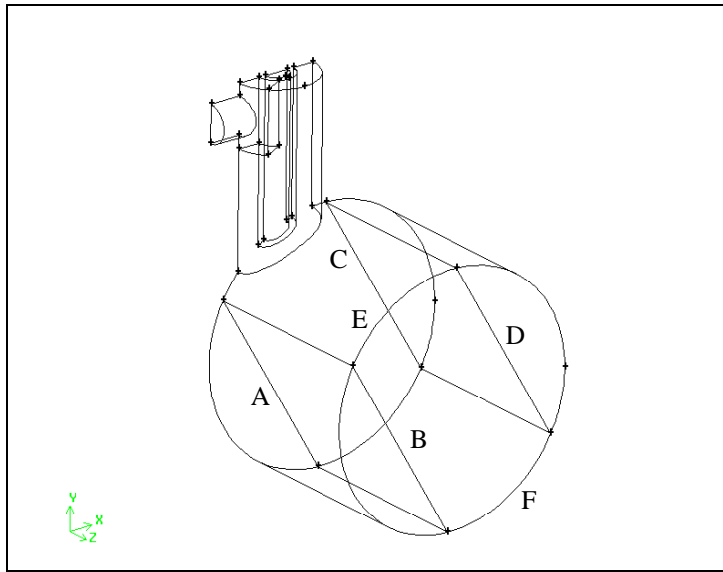

Figure 7-27: Edges to be selected for edge meshing
- a) Select the edges marked A, B, C, and D in Figure 7-27.
- a) Select the edges marked E and F in Figure 7-27.